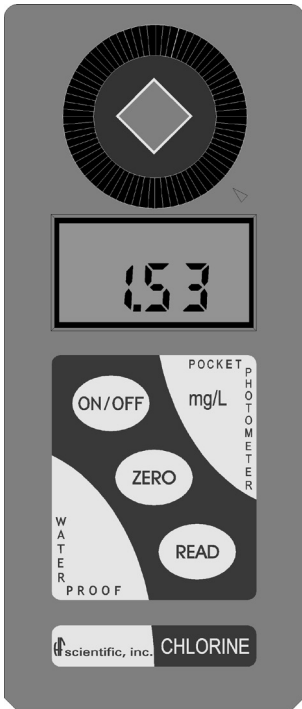

Figure 1:
Figure 1 is a depiction of the top of the instrument. The three main components of the instrument are the sample well, the display, and the touch pad. The proper use of the instrument and the sample well will be discussed in later sections.
2.5 The Instrument and Touch Pad (see Figure 1)